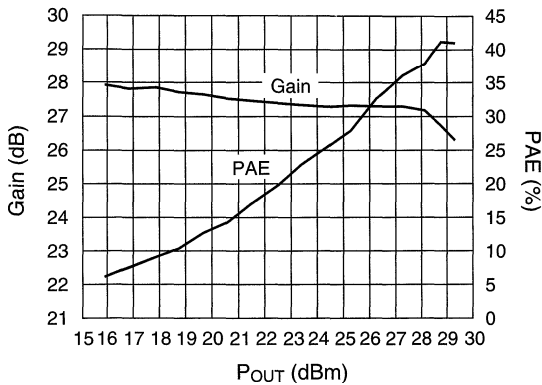

Figure 1. Gain, P.A.E. vs. Output Power
1. Performance in Figures 1, 2, 3, 4 and 5 is with V_{REF} set to 4.1 V through resistive voltage divider as shown in schematic.
2. Performance shown in Figures 1 and 2 is with a two-tone input signal at 1.88 GHz and 1.88001 GHz.